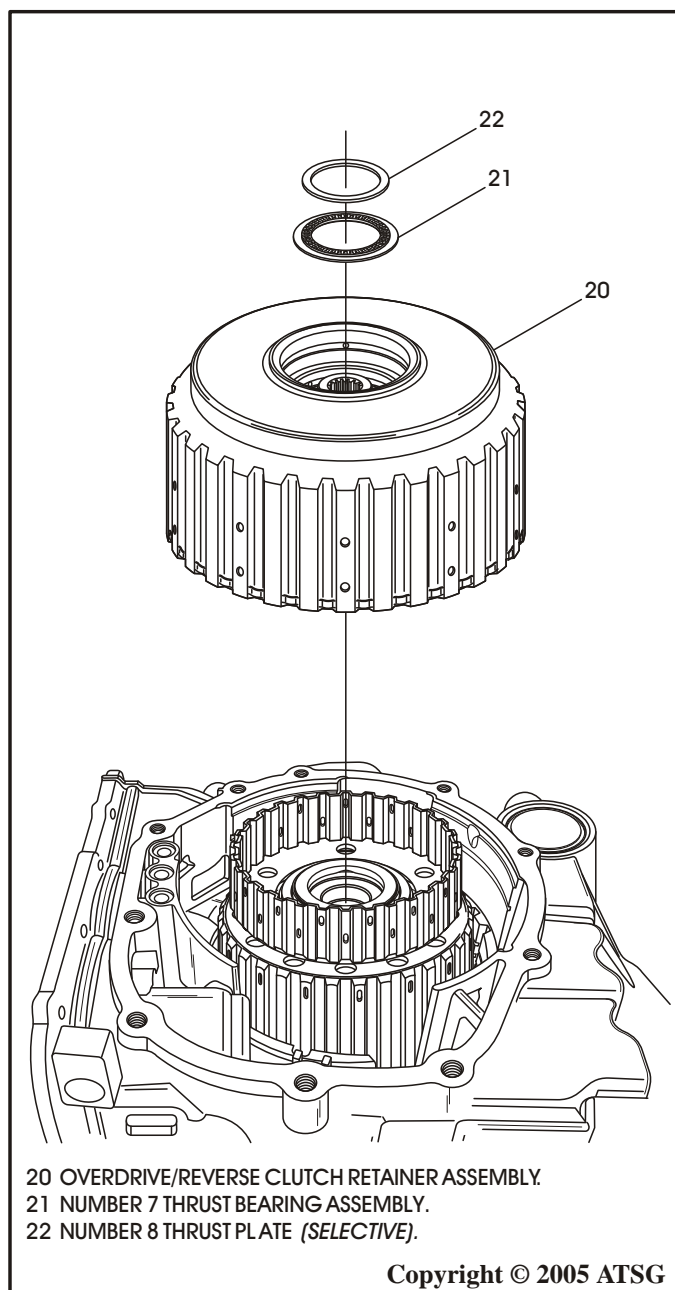

Figure 45
38. Remove number 8 *selective* thrust plate and the number 7 thrust bearing assembly, as shown in Figure 45.
39. Remove the overdrive/reverse clutch housing assembly, as shown in Figure 45.